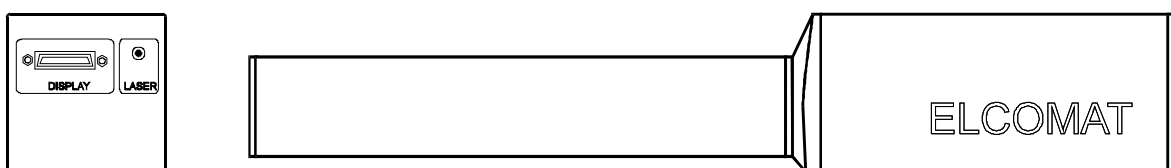

Fig. 3: ELCOMAT vario autocollimation measuring head
Fig. 3 shows the autocollimation measuring head .
- Autocollimation measuring head (AK)
- Control unit (*fig. 3*)